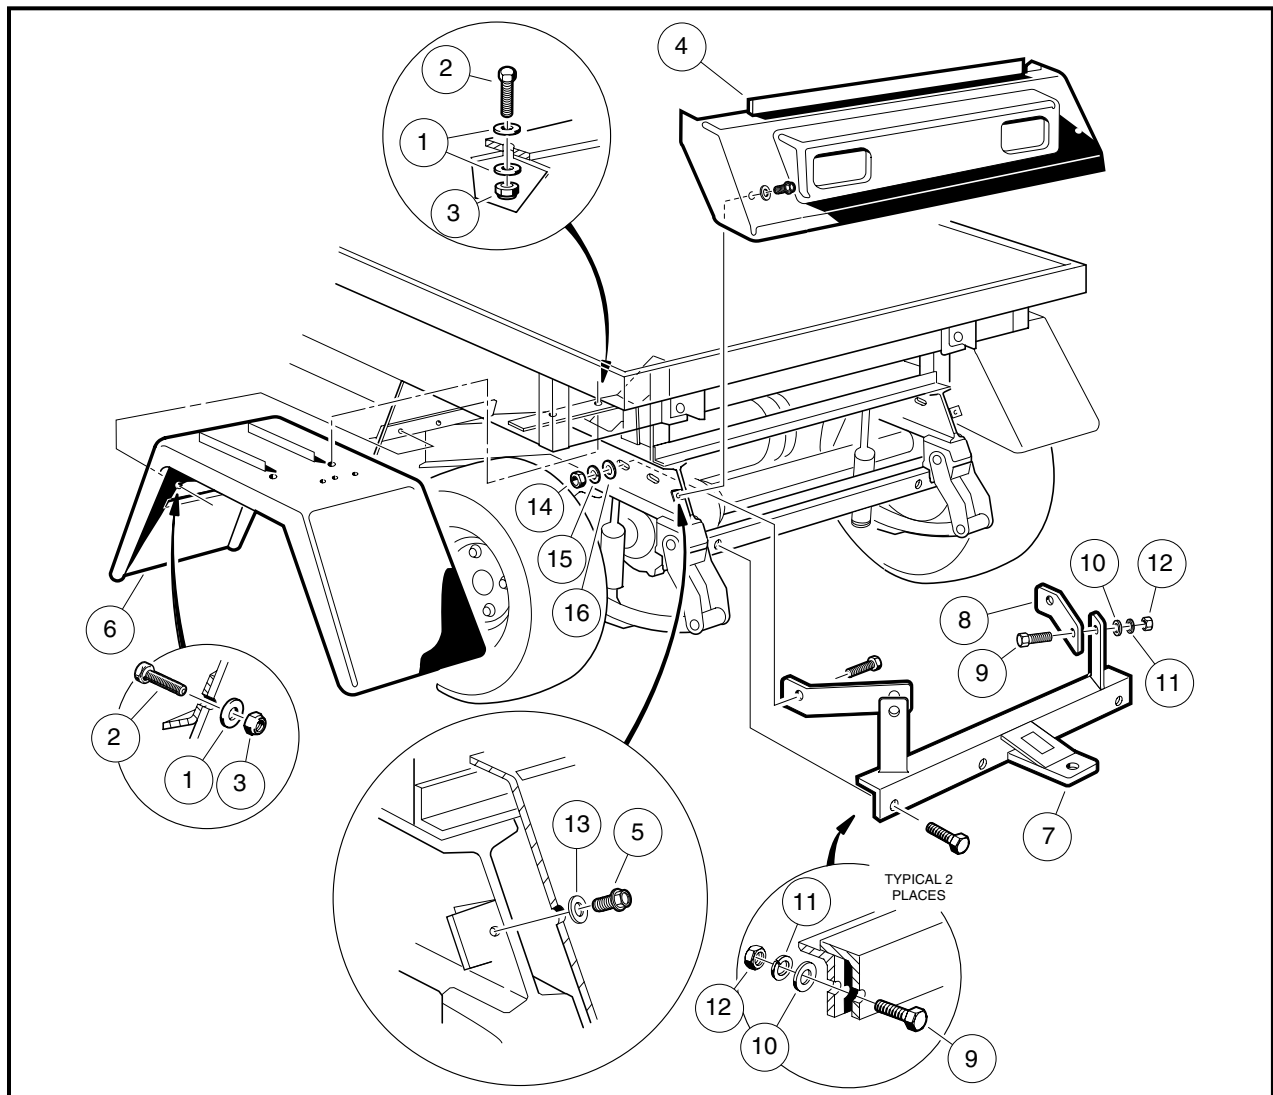
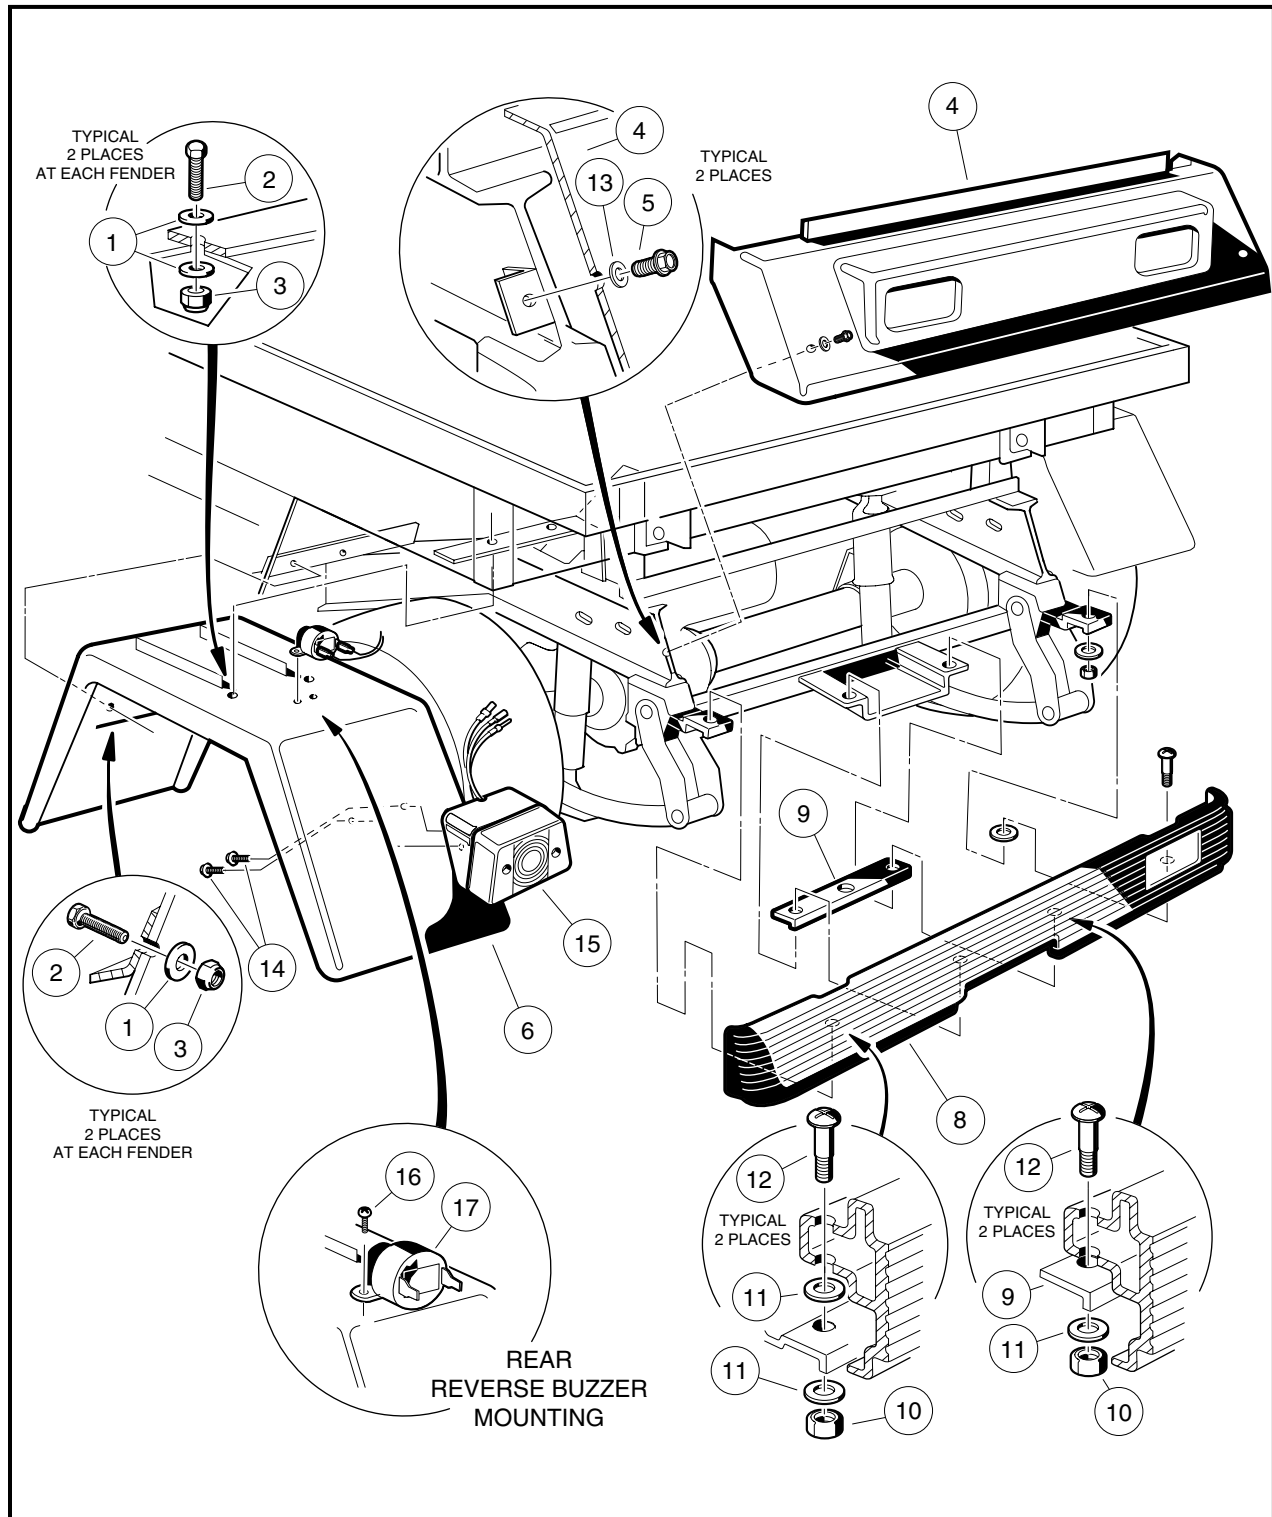

Figure 4-5 Rear Fender, Trailer Hitch and Tailskirt – Turf 1, 2, Carryall 1, 2, and 2 Plus
Figure 4-6 Rear Fender and Tailskirt – Turf 6 and Carryall 6
- 1.1. Remove the two screws (14) that secure taillight (15) to the rear fender (**Figure 4-6, Page 4-14**).
2. Remove two nylon lock nuts (3), flat washers (1), and 1/4 x 1 bolts (2) from front of fender (6) (**Figure 4-5, Page 4-13 or Figure 4-6, Page 4-14**).
3. Remove two nylon lock nuts (3), flat washers (1), and 1/4 x 1 bolts (2) and flat washers (1) from the top of fender (6) (**Figure 4-5, Page 4-13 or Figure 4-6, Page 4-14**).
- 4.1. Remove pan head screws (16) connecting reverse buzzer (17) to rear fender (6) and disconnect the two wires from the reverse buzzer (**Figure 4-6, Page 4-14**).
5. Remove fender (6) from vehicle (**Figure 4-5, Page 4-13 or Figure 4-6, Page 4-14**).
2. Where the hitch (7) is mounted to frame, remove two nuts (12), lock washers (11), flat washers (10), and bolts (9) (**Figure 4-5, Page 4-13**).
3. Where the hitch (7) is mounted to hitch brace (8), remove the nut (12), lock washer (11), flat washer (10), and bolt (9).
4. Remove hitch (7) from vehicle.
1. Install trailer hitch (14) in the reverse order of removal. (**Figure 4-5, Page 4-13**). Tighten hardware to 15 ft-lb (20.3 N-m).
1. Remove two thread-forming screws (5) and flat washers (13) from tailskirt (4) and lift tailskirt from vehicle frame (**Figure 4-5, Page 4-13 or Figure 4-6, Page 4-14**).
1. Insert upper edge of tailskirt (4) under, and in front of, back edge of rear body (**Figure 4-5, Page 4-13 or Figure 4-6, Page 4-14**).
2. Align holes in tailskirt (4) with holes in vehicle frame. Position tailskirt flush against frame.
3. Install two thread-forming screws (5) and flat washers (13) in tailskirt and tighten to 55 in-lb (6.215 N·m).
1. Remove four lock nuts (10), six flat washers (11), four phillips bolts (12), and mounting plate (9) from rear bumper (8) (**Figure 4-6, Page 4-14**).
1. Install the rear bumper in the reverse order of removal. Tighten nuts to 65 in-lb (7.3 N·m) (**Figure 4-6, Page 4-14**).